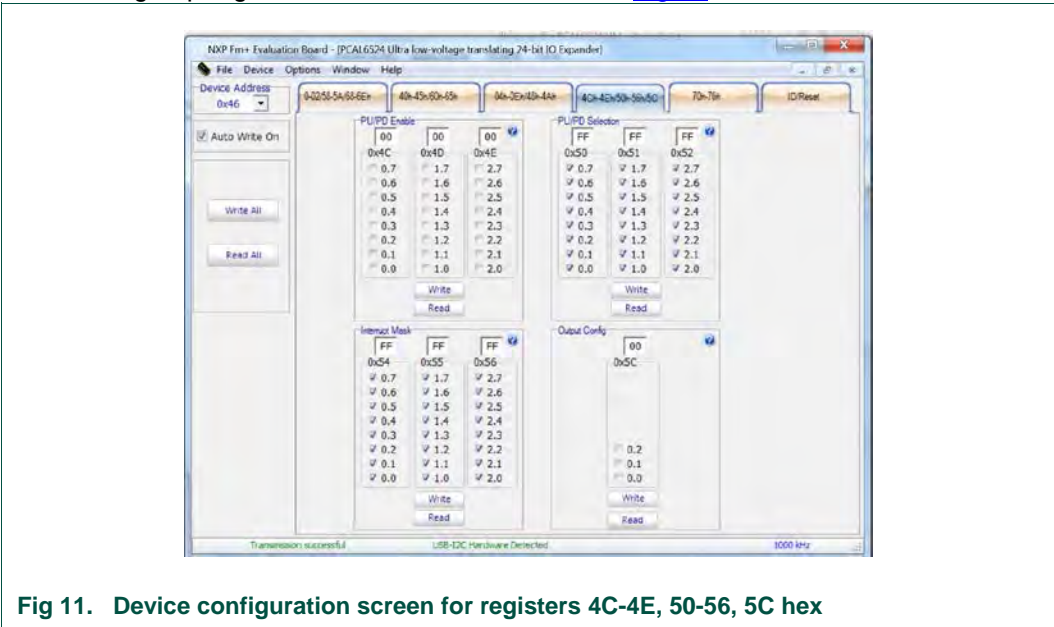

Fig 11. Device configuration screen for registers 4C-4E, 50-56, 5C hex
5. Fourth group registers read or write are shown in Fig 11.
| Fig 11. | Device configuration screen for registers 4C-4E, 50-56, 5C hex | 13 |